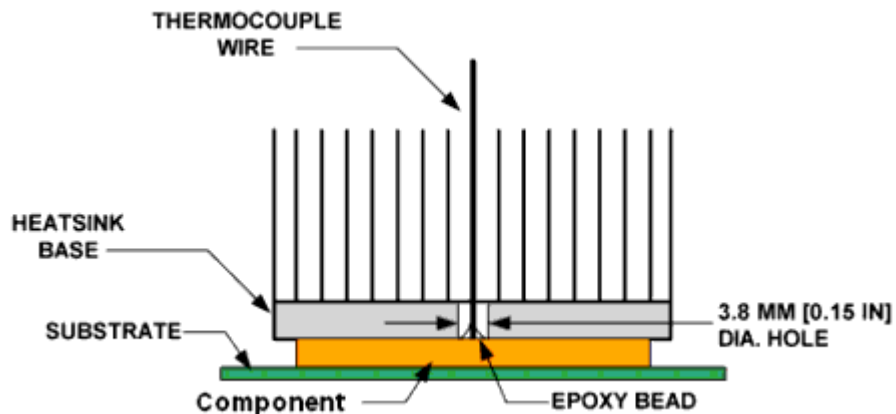

Figure 7.7. Technique for Measuring T_{case} with 90° Angle Attachment
- Attach the thermocouple at a 90° angle if there is no interference with the thermocouple attach location or leads (see Figure 7.7).